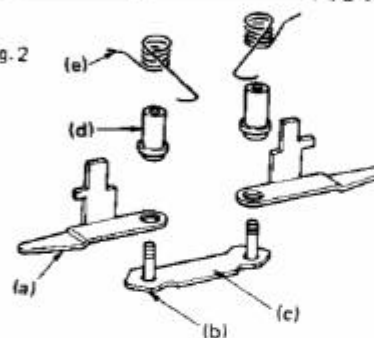

Fig. 3
- (3) Temporarily tighten the fairisle knitting cam collar to fairisle knitting cam link (b) with set screw (a). (Set the tip (B) of fairisle knitting cam spring at position shown in Fig. 3.)
- (2) Hook the edge of tuck cam spring (A) on tuck cam. (See Fig. 3)
- (3) Hook the edge of tuck cam spring (B) on fairisle knitting cam collar. (See Fig. 3)
- (4) After assembly, exercising care not to drop (d) and (e), place carriage to mounting position.
- (3) Hook the tip of valve cam spring at the portion B of guide cam and set the tightening screw (b). (See Fig. 3.)
- (4) Set guide cam into carriage mounting hole and tighten it with tightening screw (b).